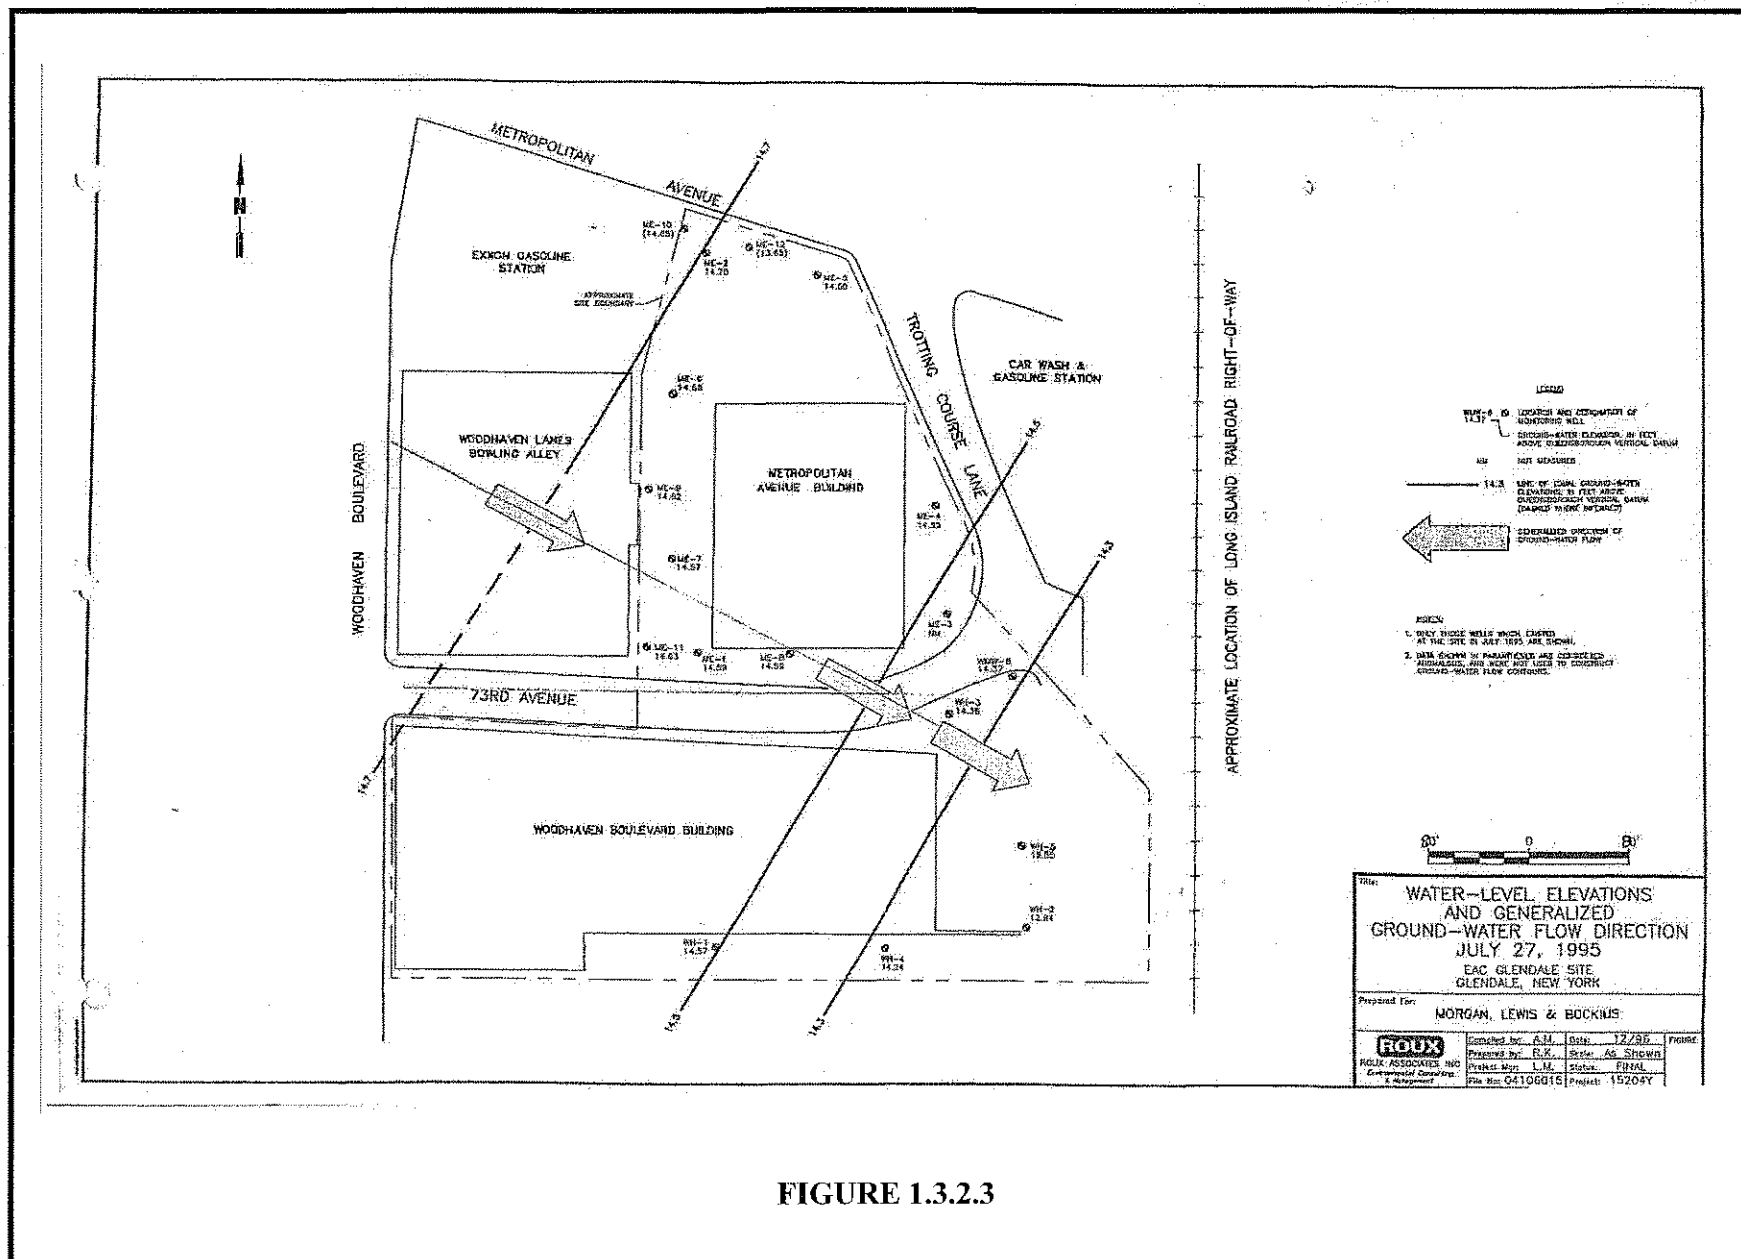

FIGURE 1.3.2.3
In addition to the onsite plume beneath the south-central portion of the Site, the Site is also impacted by an offsite plume of PCE-impacted groundwater that is present beneath and downgradient of the adjacent bowling alley property. This plume extends into the parking area located on the southwestern portion of the Site where it commingles with the onsite plume. The general configuration of these two plumes on the Site is shown on Figure 1.3.2.1. This configuration is consistent with the groundwater flow direction in the Site vicinity, which is to the southeast, as shown in Figure 1.3.2.2.
A January 7, 1997 Voluntary Cleanup Site Assessment Report (Site Assessment Report) was prepared for the Site by Roux and was submitted to the NYSDEC. Soil samples collected from the 90-30 Metropolitan Avenue Site above the groundwater surface showed no detections of PCE, even though groundwater sampling conducted from 1992 to 1995 indicated the presence of PCE in groundwater at the Site. The Site Assessment Report also confirmed a southeasterly groundwater flow direction based on water table elevation data from 18 onsite and offsite wells (see Figure 1.3.2.3). Furthermore, the Site Assessment Report identified an offsite source for the PCE due to elevated PCE concentrations in wells on the upgradient side of the Site adjoining the bowling alley property and the absence of any indications of a potential onsite source (historic PCE usage or impacted soil).
AKRF, Inc. (AKRF) prepared a Remedial Investigation (RI) Report for the 90-30 Metropolitan Avenue Site in April 2004. This RI report included groundwater data collected from the perimeter of the bowling alley property in 2003, as shown on Figure 1.3.2.4. AKRF concluded that two somewhat overlapping plumes of PCE-impacted groundwater are present in this area. The western (bowling alley) plume extends from the east side of Woodhaven Boulevard eastward under the bowling alley and onto the southwestern side of the Site. AKRF observed that there are relatively few monitoring wells on the bowling alley property and none under the bowling alley building (which occupies nearly the entire property) and, therefore, this plume is not well-defined. However, significant PCE concentrations were present on the north, west, south, and east sides of the bowling alley building, suggestive of a potential source beneath the building. As shown on Figure 1.3.2.4, the southern (downgradient) extent of the bowling alley plume is not well-defined by the 2003 data.
Figure 1.3.2.1 depicts the configuration of the PCE plumes in the shallow groundwater in June 2005, as documented in the Remedial Action Work Plan (RAWP) for the 90-30 Metropolitan Avenue Site (FPM, November 2005). The groundwater flow direction in the shallow water table in 2005 was generally to the south and southeast, as shown in Figure 1.3.2.2, and is consistent with the distribution of PCE in the groundwater at that time.